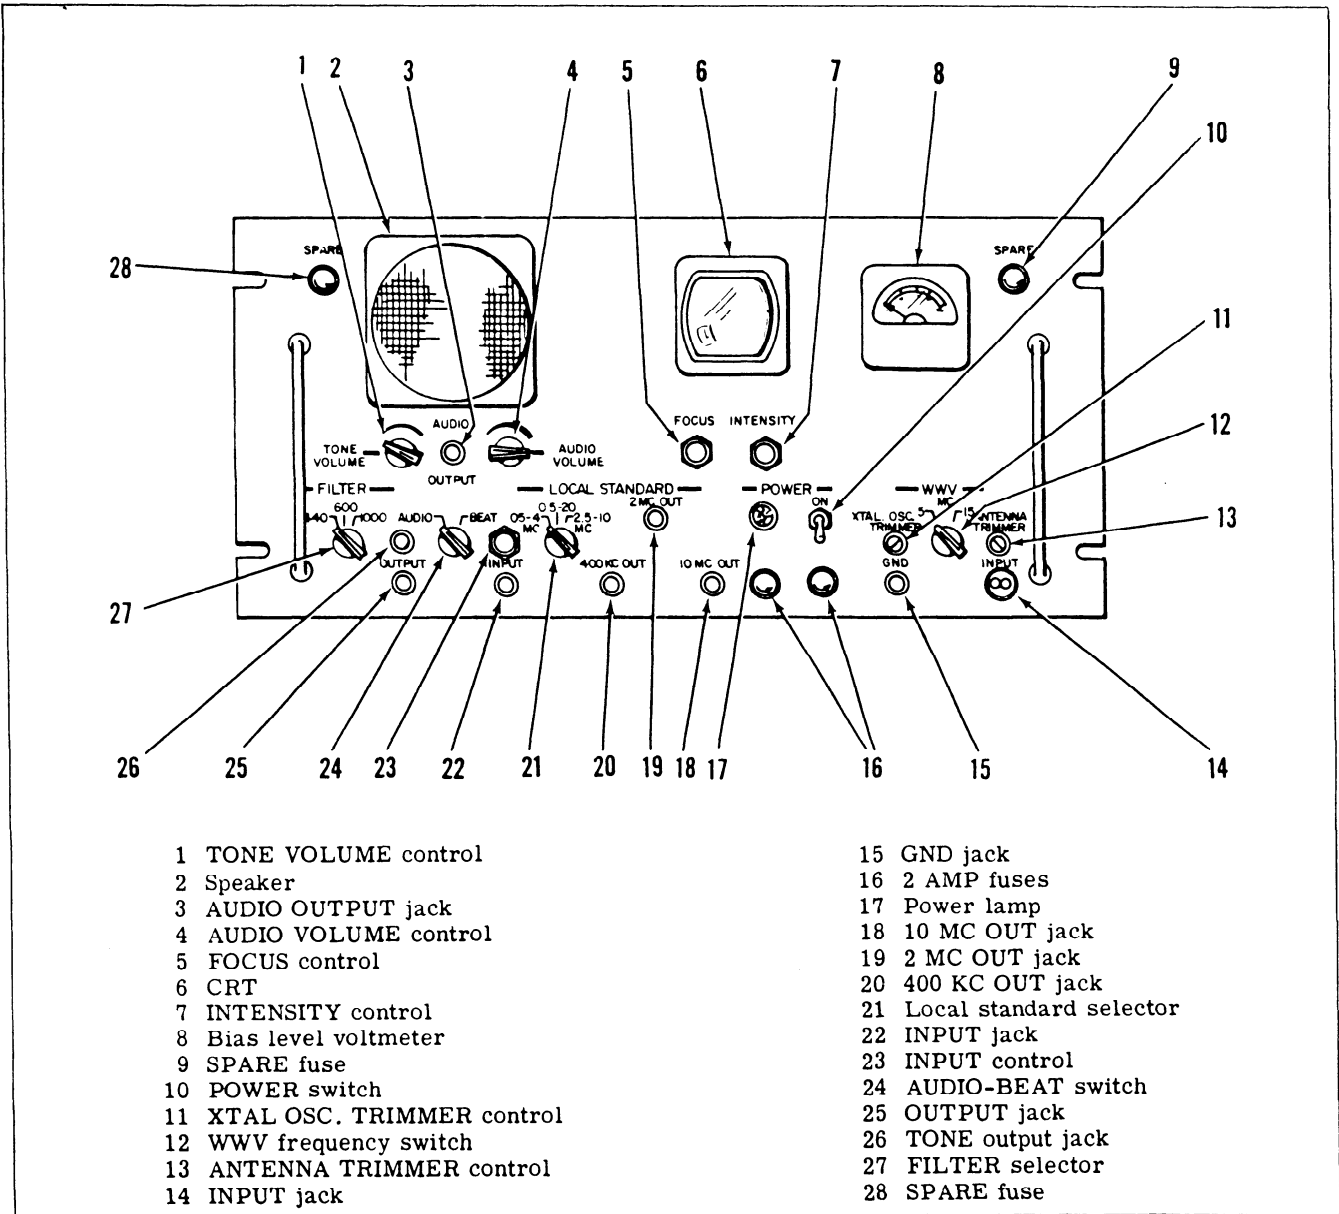

Figure 4-1. WWV Comparator Front Panel
4-2. Table 4-1 lists the functions of these items. (See figure 4-1.)
4-4. Before operating the WWV comparator, place the unit on a work bench near sources of power required for operation. Provide sufficient space for the equipment to be tested. Check to insure that POWER switch (10, figure 4-1) is turned off.
- a. Connect antenna to antenna INPUT jack (14, figure 4-1).
- c. Set POWER switch (10) to ON.
- d. Check that power lamp (17) is lighted.
d. Replace power lamp (17, figure 4-1) and spare 2 ampere fuses (9) as necessary.
No video, no audio. Power lamp (17, figure 4-1) lit.	Rectifier V118 R.F. Amplifier V101 Mixer V103 I.F. Amplifier V104 Local Oscillator V112 Buffer Amplifier V113A